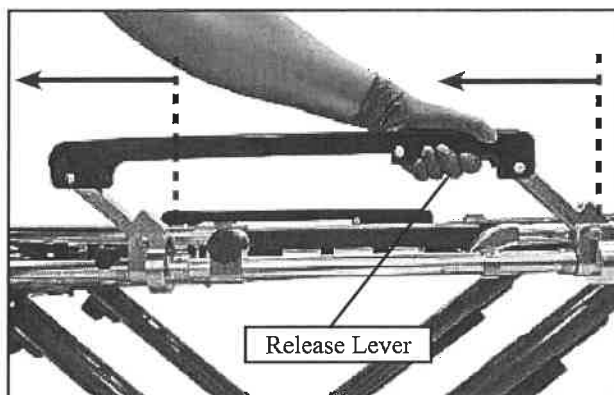

Figure 16 - Using the Universal Sidearm
- **Purpose:** Sidearms provide patient security and comfort. Keep the sidearms raised except during patient transfer. The sidearms feature an intermediate stop that allows a patient's arm to be placed on the sidearm for treatment, starting of intravenous (IV) fluids, etc.
- **To fold:** Press the release lever (Figure 16) and fold the sidearm flat along the cot main frame.